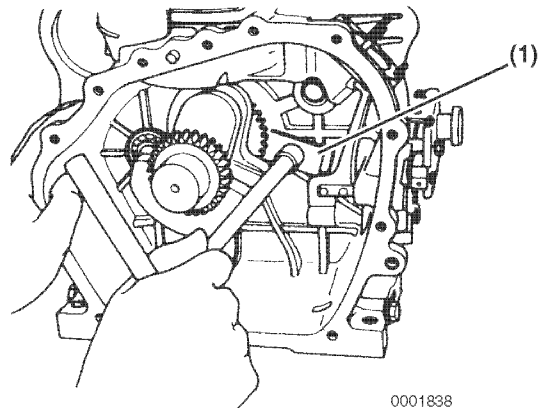

Figure 6-94
8. Position the bearing retainer plate (**Figure 6-94, (1)**) in the crankcase.